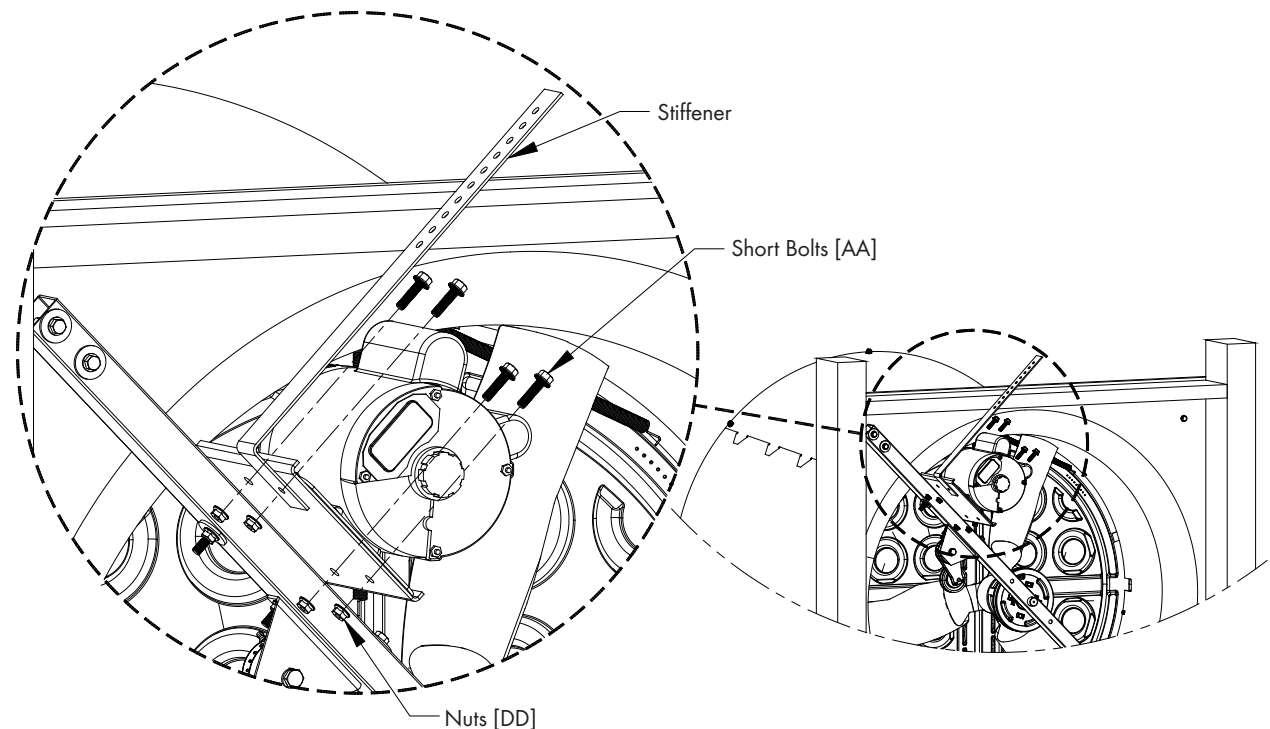

Figure 26A
Secure Motor to Motor Bracket and Motor Bracket Stiffener using (4) Short Bolts [AA] and Nuts [DD]. The rear upper bolt is where Motor Bracket Stiffener is attached. See Figure 26A.